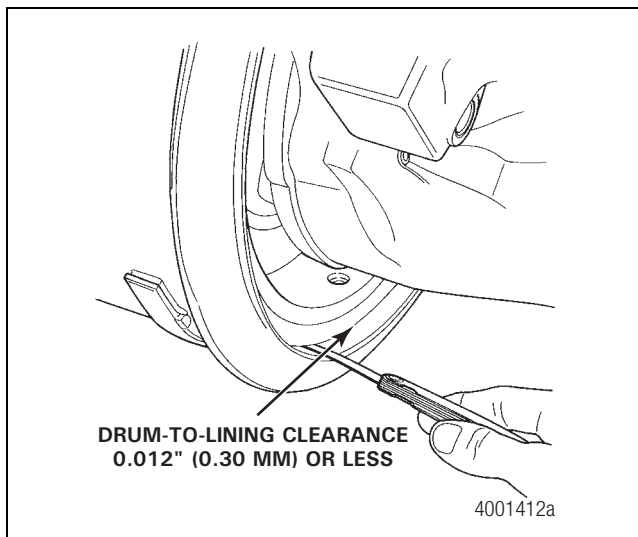

Figure 5.29
4. Use a feeler gauge to measure the clearance between the lining and the drum. Figure 5.29.